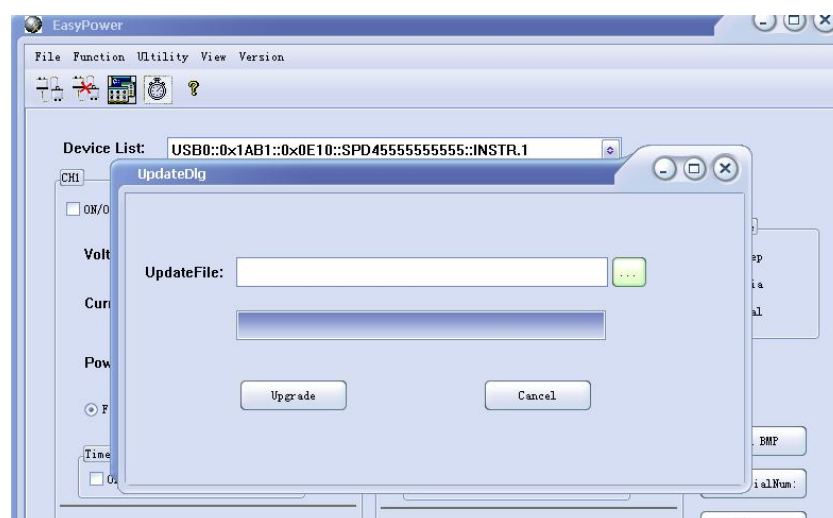

Figure 2
3. Figure 2 shows the firmware upgrade dialogue. Click file choosing icon , and then select the file to be upgraded which must have a postfix ugf.